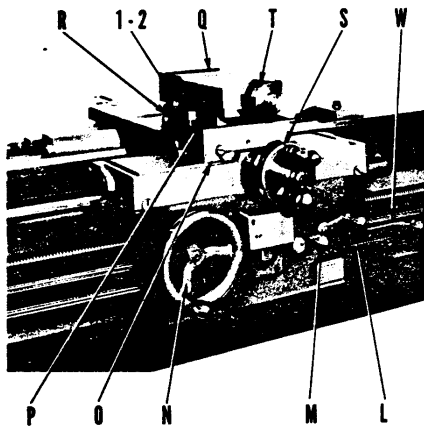

Fig. 8
The Apron (Figure 8) is a double-walled one piece casting in which all shafts and gears are supported on both ends. This unit is bolted securely to the carriage and contains the controls, gears, and other mechanisms for feeding the carriage and cross slide by hand or power. It also contains the half nuts controlled by lever (L) which engages the leadscrew for thread chasing.